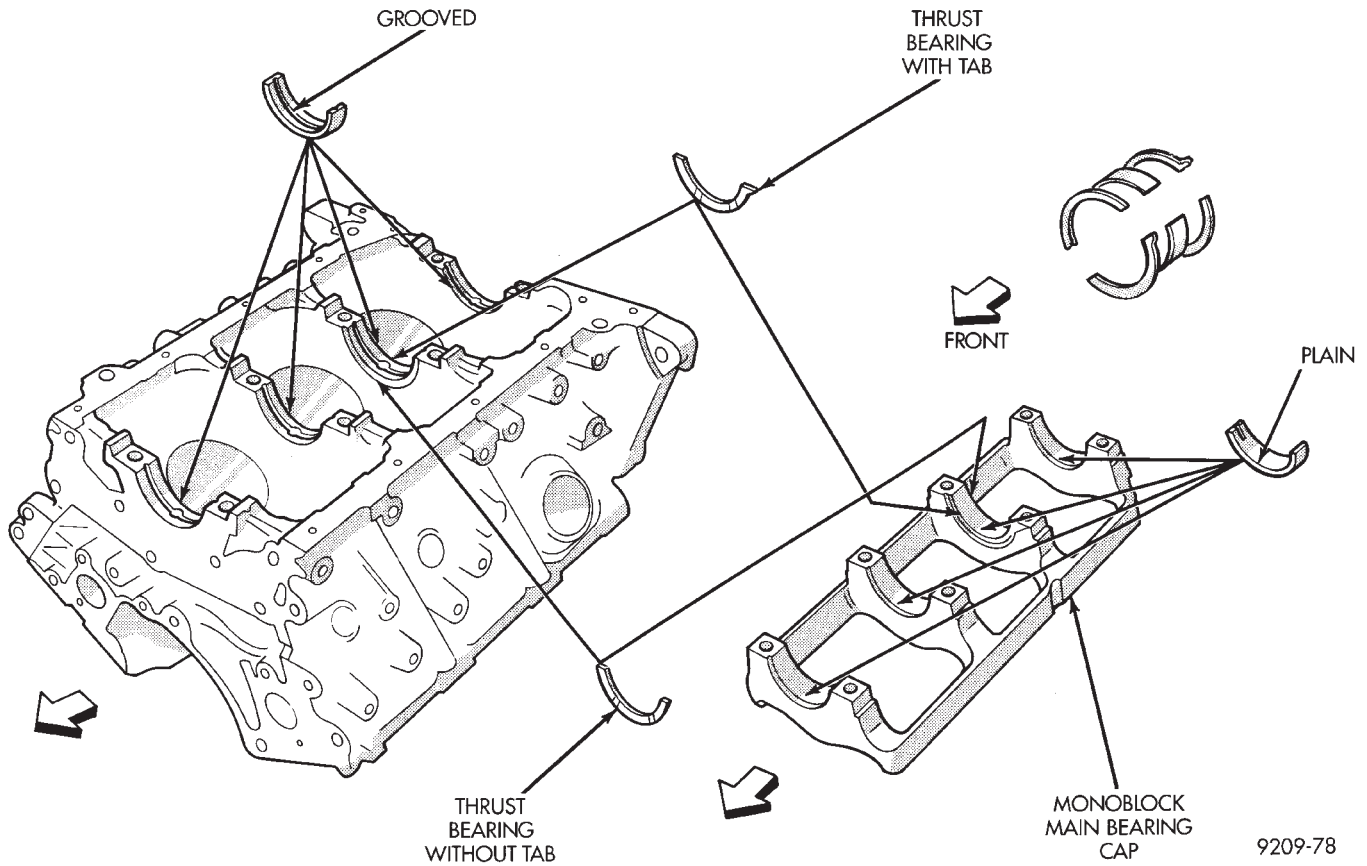
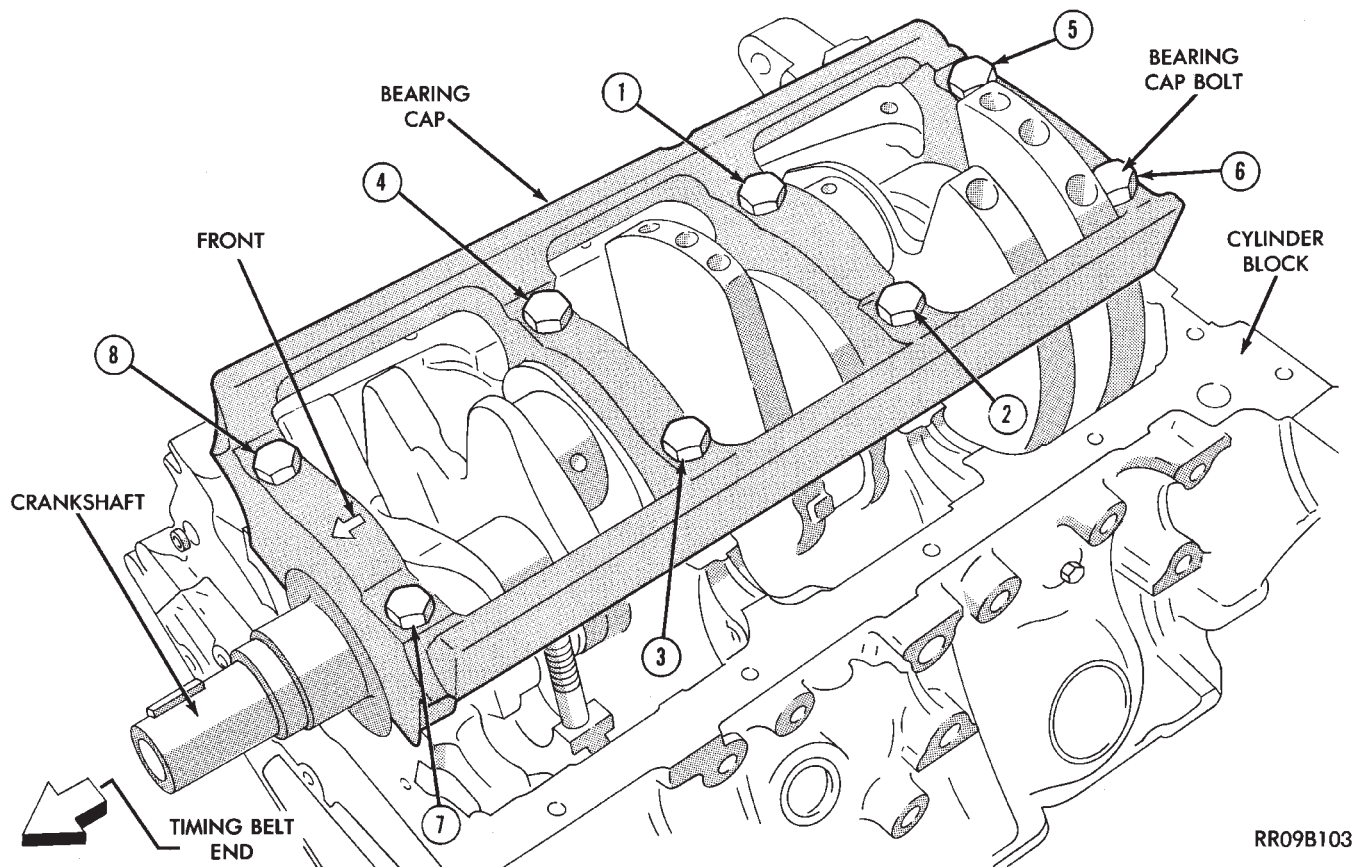

Fig. 78 Main Bearings Installation
Fig. 79 Crankshaft Main Bearing Cap
(1) Install upper main bearing shells making certain oil holes are in alignment, and bearing tabs seat in block tabs. All upper bearings have oil grooves (Fig. 78).
(2) **THRUST BEARINGS.** Crankshaft thrust bearings (washers) are installed at journal #3 separately from the radial bearings. Thrust bearings are different, one has end positioning tabs, while the other is plain. One **pair** of each thrust washers are installed into the block and one **pair** into the main bearing cap (Fig. 78).
(3) Apply a thin film of grease to plain side of thrust washers and position them on each side of number three main bearing. Grooved surface towards crankshaft.
(4) Oil the bearings and journals and install crankshaft.
(5) Install lower main bearing shells (without oil grooves) in monoblock cap.
- (6) Install one pair of thrust washers in cap.
- (7) Carefully install bearing cap with arrows (Fig. 79) toward timing belt end.
(8) Oil the bearing cap bolt threads, install and tighten bolts progressively in sequence shown in (Fig. 79) to 94 N-m (69 ft. lbs.).